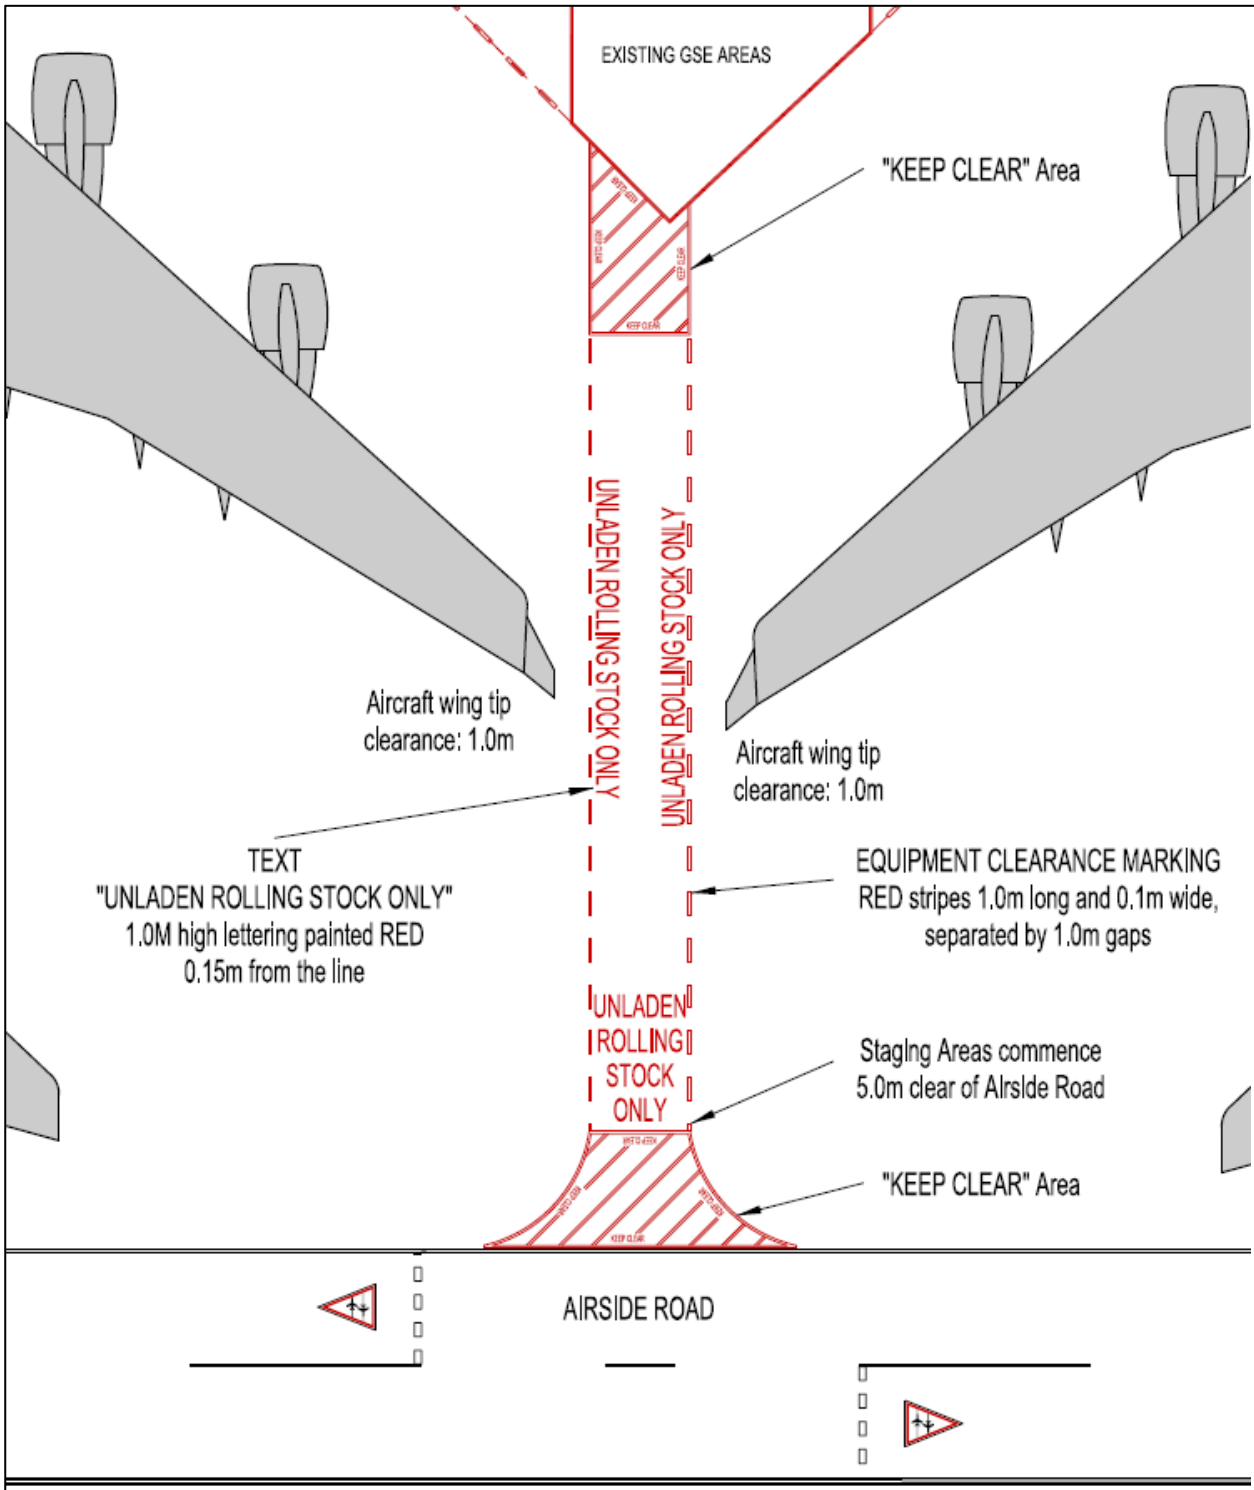

Figure 1 - BWS Marking
- 6.1 Unladen rolling stock within the BWS area must be staged entirely between the BWS markings (See Figure 1). Any rolling stock required on bay that cannot be facilitated within the designated BWS area may be staged in designated equipment staging/storage areas on the bay.